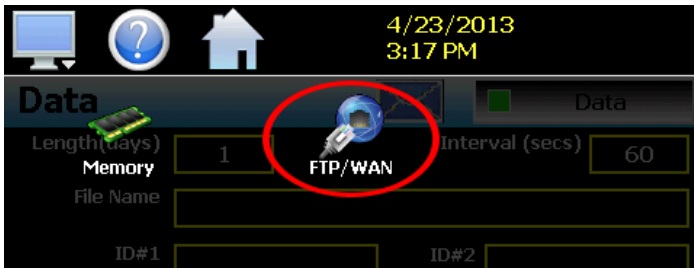

Fig. 80: FTP/WAN icon
1. To access the FTP/WAN, select HOME - MONITOR - DATA - MONITOR - (swipe screen) FTP/WAN icons (Fig. 80).